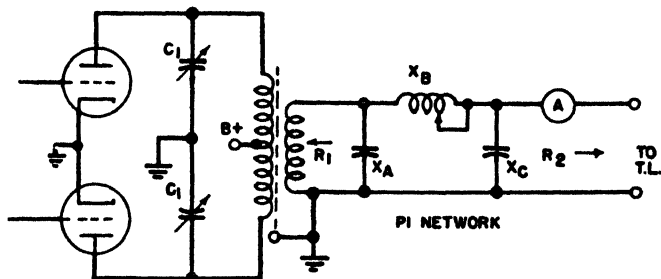

FIG. 4-11.—Transmission-line coupling system.
*Ans.* Figure 4-11 illustrates a schematic arrangement of a final power-amplifier stage with transmission-line coupling and harmonic-suppression circuit.